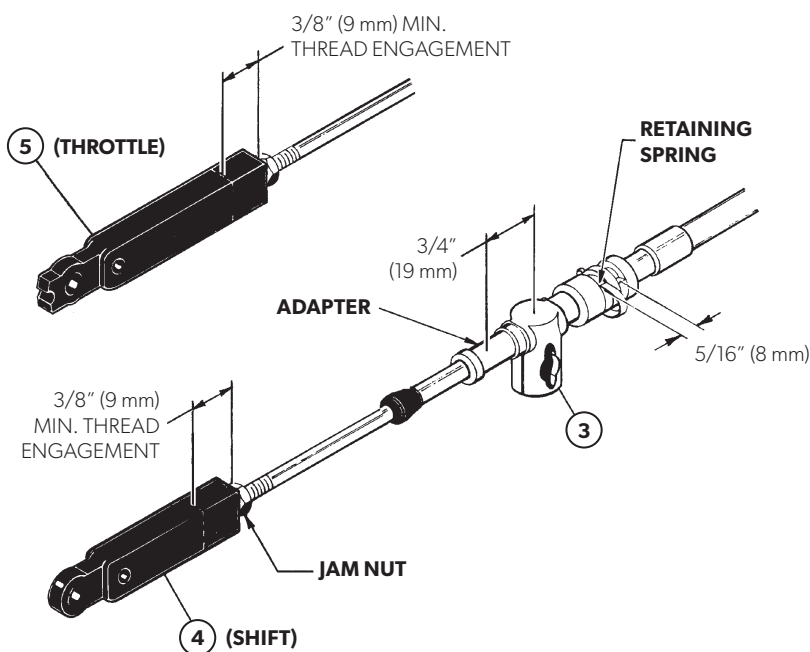

Figure 3.
- Place one anchor nut (item 3) over one of the undercuts on each adapter as shown in figure 3. Press firmly on anchor nut to snap it into position.